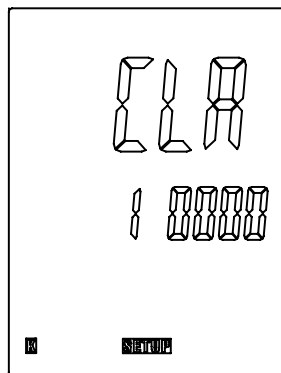

Fig. 4
2. Use the **▲** and **Rec/▼** buttons to scroll to the **CLR memory** option screen. The screen indicates the number of sample points remaining (Fig. 4).